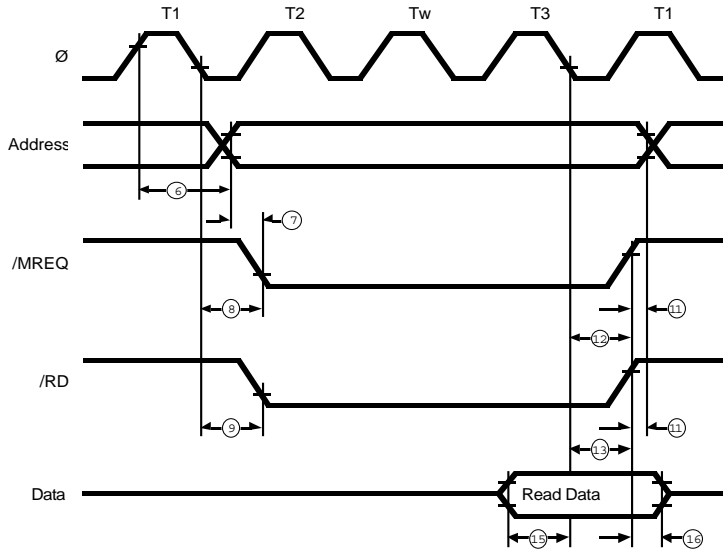

Figure 2. Z180 Memory Read Cycle Timing (One Wait State)
- Memory read cycle (Figure 2 on page 4)